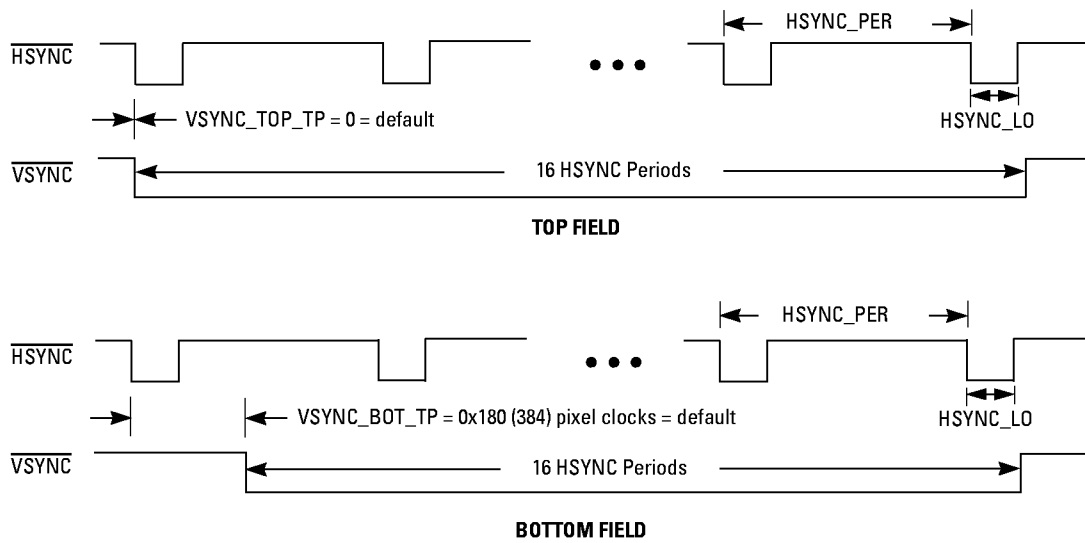

Figure 7-5 $\overline{\text{HSYNC}}$ and $\overline{\text{VSYNC}}$ Output Timing (Master Mode)
- *\overline{HSYNC} LOW Time:* NTSC_HSYNC_LO and PAL_HSYNC_LO parameters specify the time \overline{HSYNC} is LOW for both NTSC and PAL, respectively (see Figure 7-5).
- *\overline{HSYNC} Period:* NTSC_HSYNC_PER and PAL_HSYNC_PER parameters specify the \overline{HSYNC} period for both NTSC and PAL, respectively (see Figure 7-5).
- *\overline{VSYNC} LOW Relative to \overline{HSYNC} LOW:* VSYNC_TOP_TP and VSYNC_BOT_TP specify the delay time from \overline{HSYNC} going LOW (for both top and bottom fields, respectively) to the start of \overline{VSYNC} going LOW (see Figure 7-5). The default for VSYNC_TOP_TP is 0; the default for VSYNC_BOT_TP is 0x180 (384) pixel clocks.